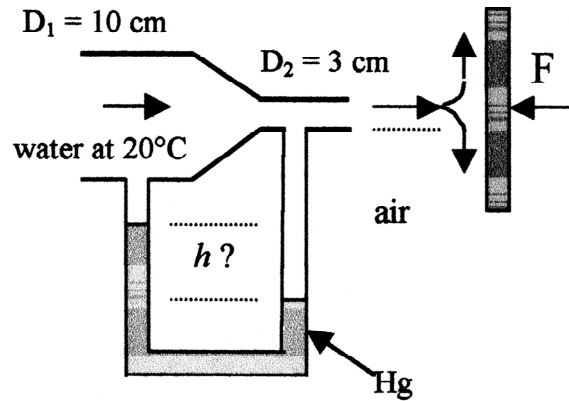

Fig. P3.121
P3.121 Water flows through a circular nozzle, exits into the air as a jet, and strikes a plate, as in Fig. P3.121. The force required to hold the plate steady is 70 N. Assuming frictionless one-dimensional flow, estimate (a) the velocities at sections (1) and (2); (b) the mercury manometer reading h .